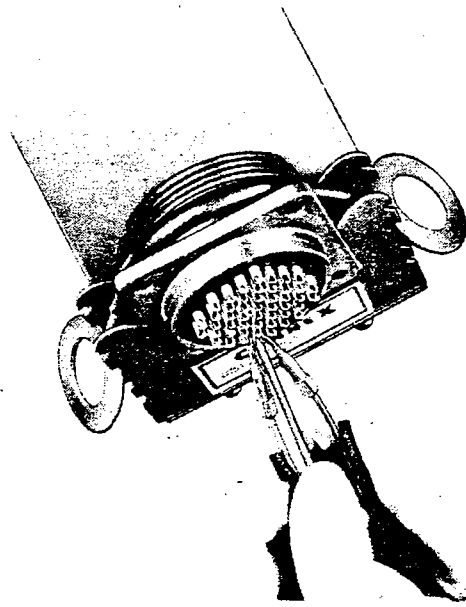

Figure 9
a. Position the connector as shown in figure 9. Cutaway sides of solderwells should be up. If necessary, the wire being attached can be